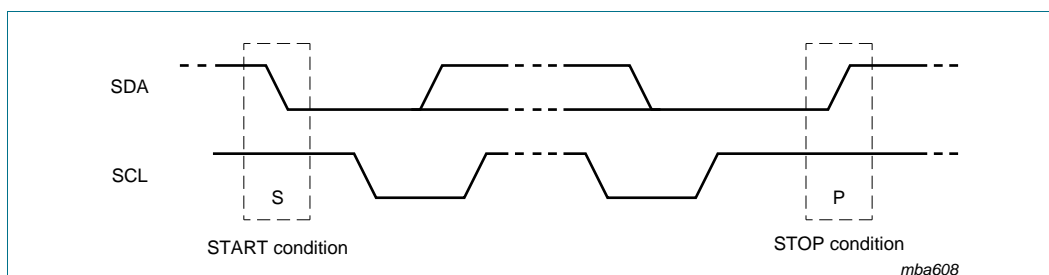

Fig 11. Definition of START and STOP conditions
Both data and clock lines remain HIGH when the bus is not busy. A HIGH-to-LOW transition of the data line while the clock is HIGH is defined as the START condition (S). A LOW-to-HIGH transition of the data line while the clock is HIGH is defined as the STOP condition (P) (see Figure 11).